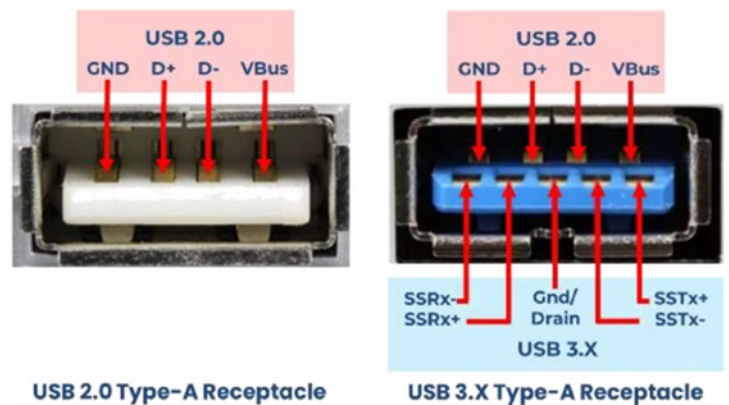

Figure 5 USB-A receptacles: up to USB 2.0 (left) and USB 3.x Superspeed with backward compatibility (right)
The USB-C connector was introduced in 2014. Small and elegant, a key design point is its reversible orientation for user-friendliness. Its layout of two symmetric rows of twelve pins each includes channel configuration (CC) pins to establish the connected configuration depending on which way around the connector is inserted (shown in green in figure 5). Other features include: